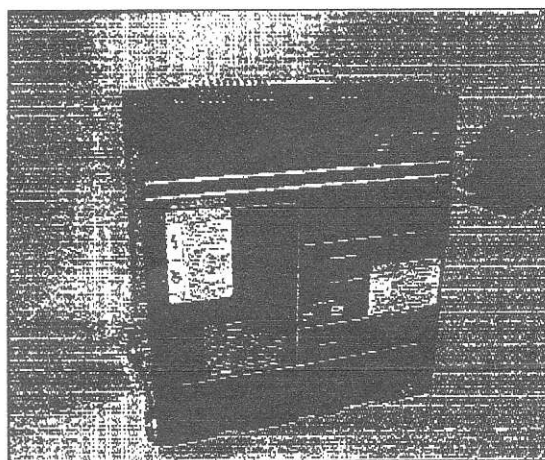

Fig. 59 Replace Front Cover
- 17) Replace the front cover (Fig. 59).